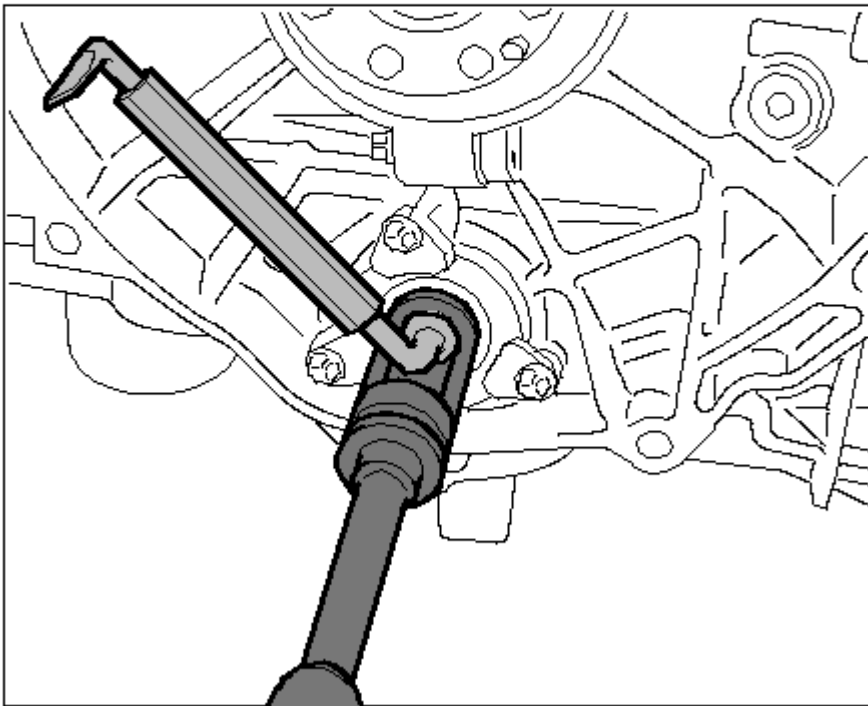

Fig. 120: Threaded joint with collar nut on bearing cover for intermediate shaft
7. Loosen M12 hexagon collar nut (a/f 22) on bearing cover for intermediate shaft with special tool **assembly tool P 9673/1** and screw it off --> *Threaded joint with collar nut on bearing cover for intermediate shaft* . See **Fig. 120**.